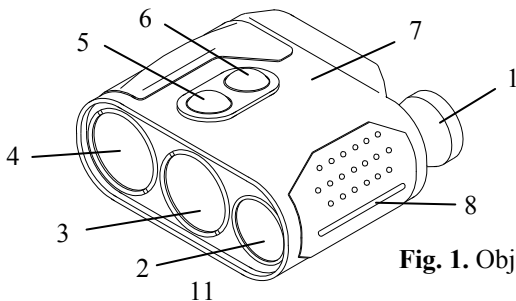

Fig. 1. Objective lens view
When the Rangefinder is off the LCD is blank. To activate - it press and hold for one second A button (6) (Fig.1). At start the unit comes into Ready to Measure mode indicated by the word 'READY' on the display visible through eyepiece.
Pressing A button (6) (Fig. 1) in *Ready to Measure* mode initiates measurement. The result of measurement is displayed in a form that depends on the measurement parameters (see Setup Mode).